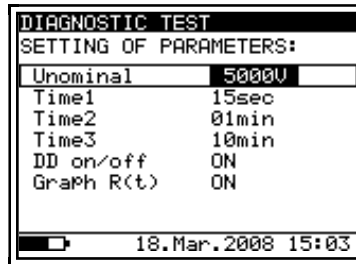

Fig. 18. Set-up menu in Diagnostic Test
- Press the SELECT key, (the Set-up menu appears on display, see the Fig. 18).